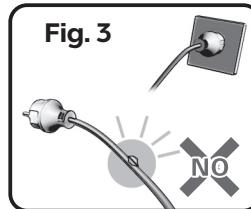

Fig. 3
- The submersible pump should not be used if the electrical supply cable is damaged in any way. If a cable with damaged insulation is submerged in water, there is danger of water seeping into the pump motor and causing a short. The electrical cable cannot be replaced. If the cord is damaged, the pump should be discarded. Altering the electrical cable in any way will void the warranty. (Fig. 3)